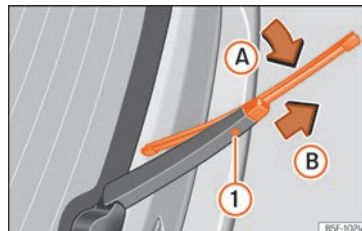

Fig. 52 Changing the rear wiper blade
- Turn the blade slightly » Fig. 52 (arrow ❸).
- Hold down the release button ❶ while gently pulling the blade in the direction of arrow ❷.
- Insert a new blade of the **same length and type** in the rear wiper arm in the opposite direction to the arrow ❷ and hook into place button ❶.